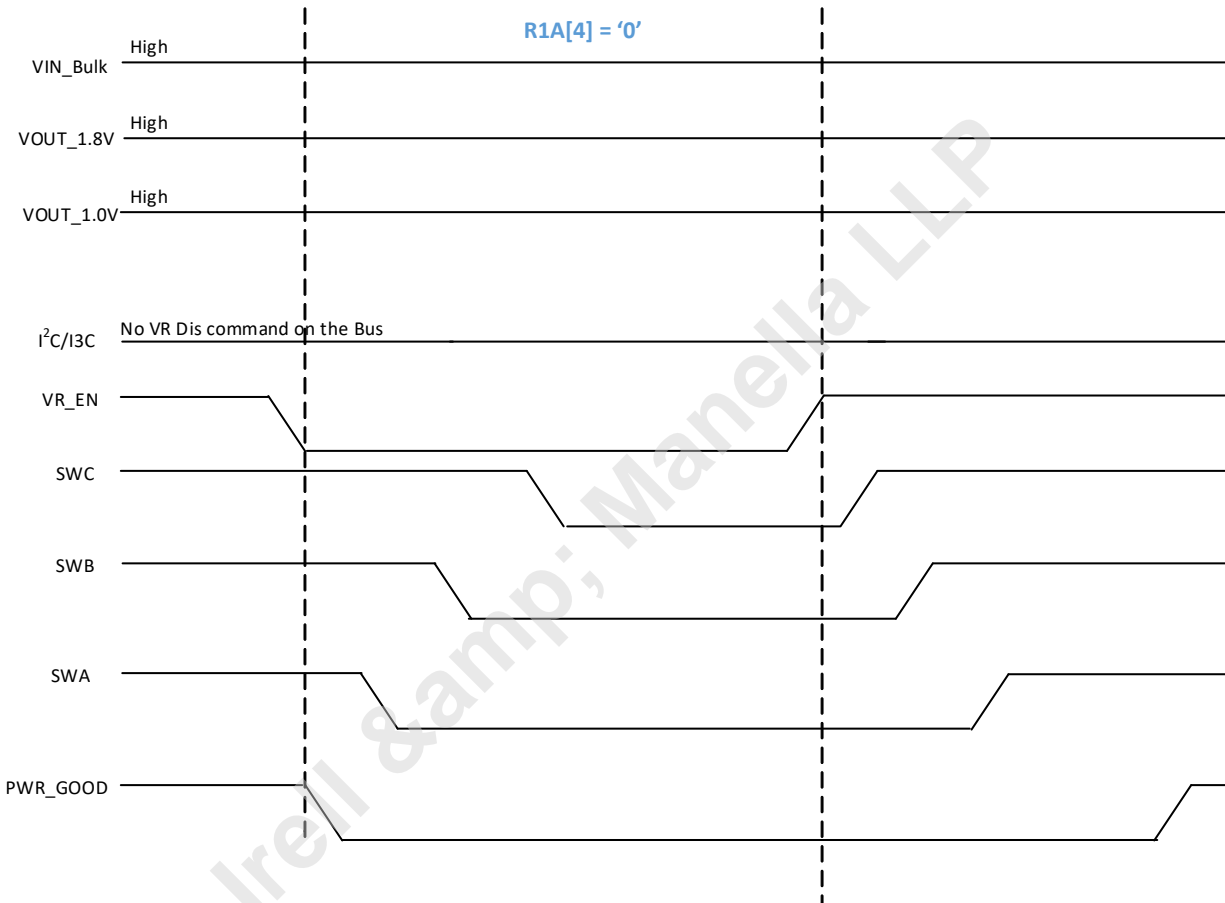

Figure 26 — Power Down with VR_EN Pin; R1A[4]=0; Program Mode; PWR_GOOD Signal
- a. If VR Disable command with a pin (i.e., VR_EN pin transitions to Low) PMIC asserts PWR_GOOD signal Low. The host can re-enable the PMIC's output regulators by VR_EN pin transition to High. The PMIC executes power on sequence config 0 to power on sequence config 2 registers and floats PWR_GOOD signal after tPMIC_PWR_GOOD_OUT timing parameter is satisfied. See Figure 26. The PMIC does not require power cycle.